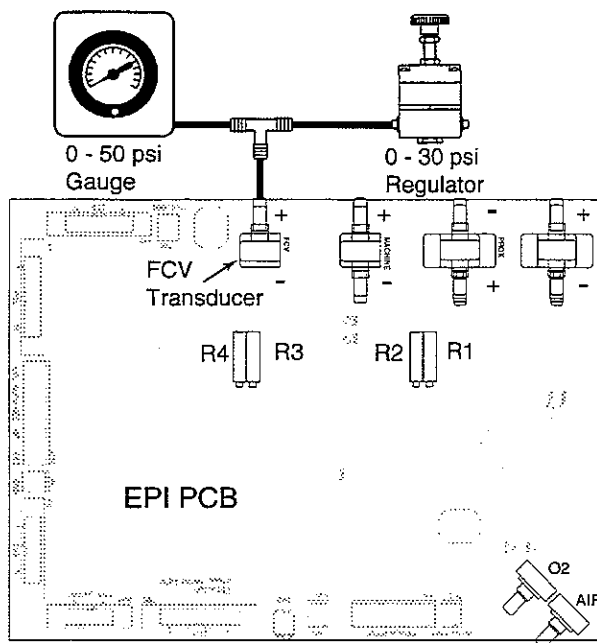

**Figure 5-5**
7. Connect the Machine Transducer as shown in Figure 5-5 and apply 120  $\pm$ 5 cmH2O pressure.